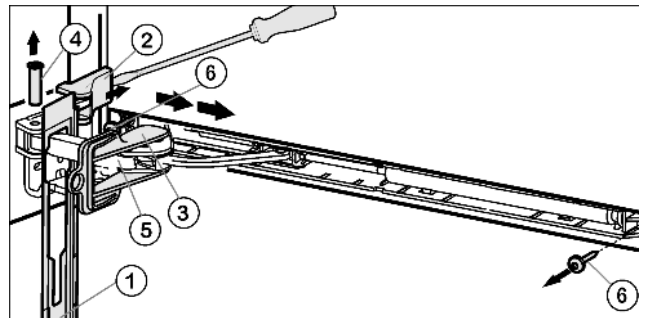

Fig. 5
- ▶ Slide the faceplate forwards over the soft stop bracket Fig. 5 (5) in the direction of the appliance.
- ▶ Snap the safety lock Fig. 5 (3) into the oblong hole.
- ▶ Using a screwdriver, lift off the cover Fig. 5 (2) from the outside and remove it in an outward direction.
- ▶ Press the pin Fig. 5 (4) out from underneath.
- ▶ Press the soft stop bracket Fig. 5 (5) towards the door.
- ▶ Remove the faceplate Fig. 5 (1).
- ▶ Unscrew the entire soft stop unit (2x Torx® 15) Fig. 5 (6).